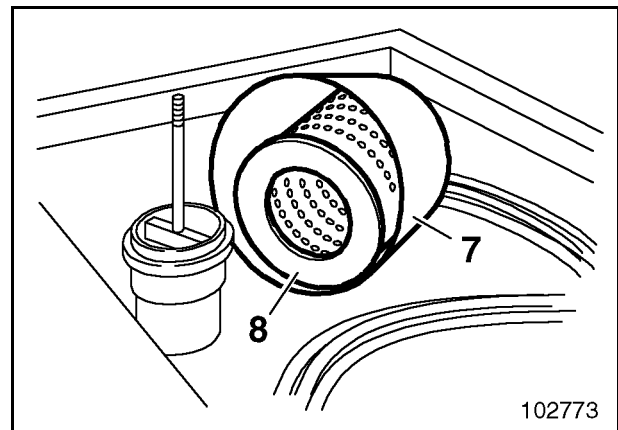

Fig. 3-143:
- Unscrew wing nut that fixes the cover (10, Fig. 3-143:).